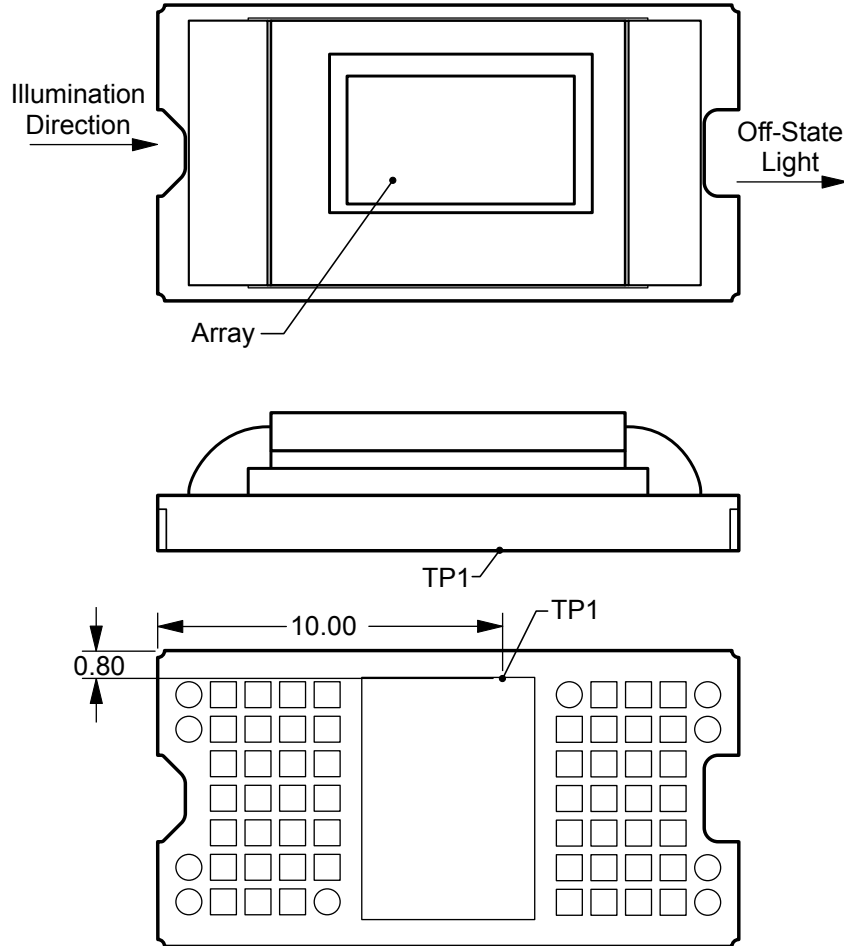

Figure 7-8. Thermocouple Location
Relationship between array temperature and the reference ceramic temperature (thermocouple location TP1 in Figure 7-8) is provided by the following equations.
- T_{CERAMIC} = measured ceramic temperature (TP1 location in Figure 7-8) ($^{\circ}\text{C}$)